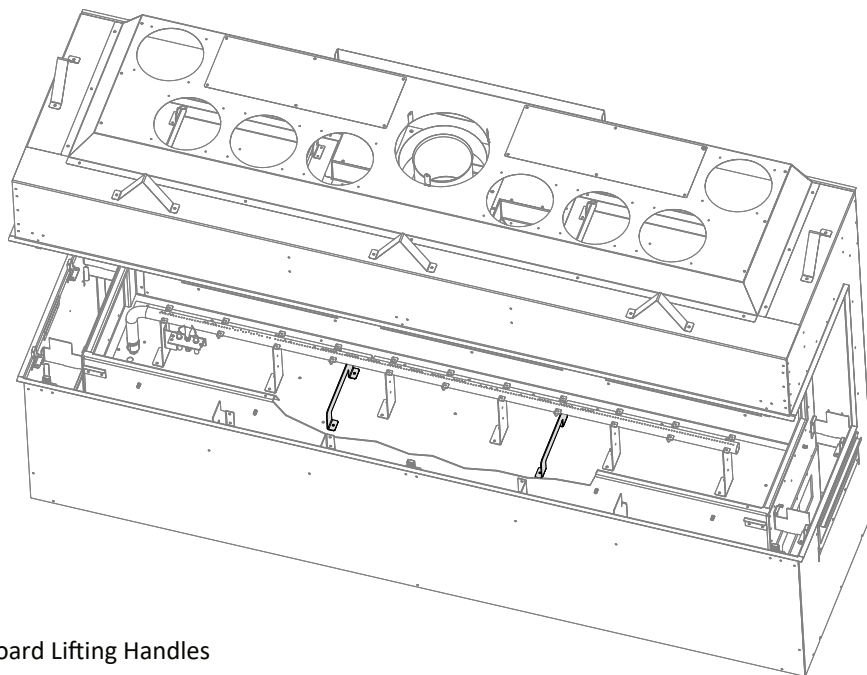
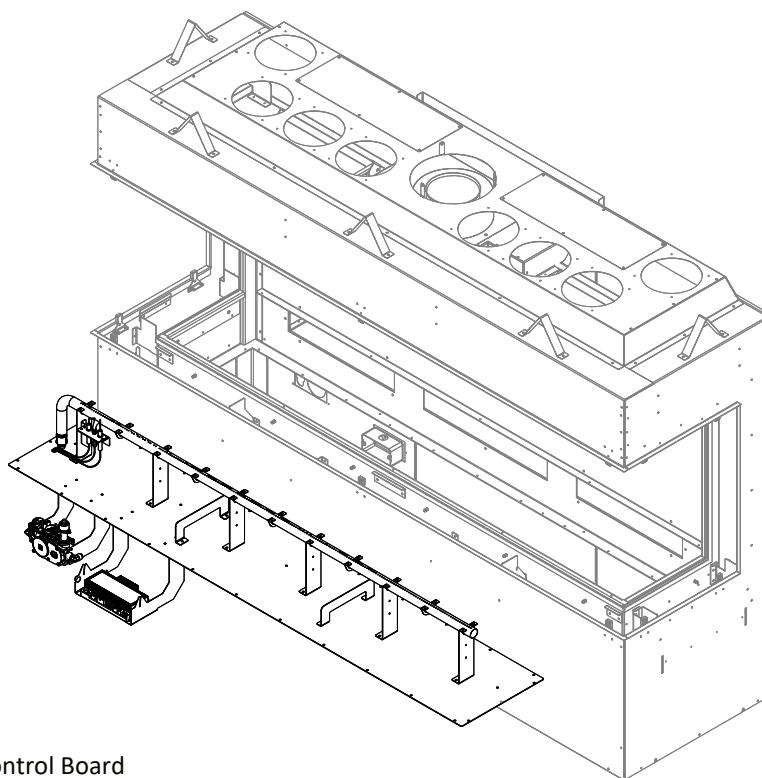

Figure 4.16 - Control Board Lifting Handles
Figure 4.17 - Remove Control Board
5. Remove the (24) sheet metal screws securing the control board to the bottom of the firebox. Figure 4.17.
6. Start by locating the two lifting handles (Figure 4.16) near the center of the control board. When pulling the control board up and out you will have to tilt the control board towards you so the valve and module pivot into the opening. Lift the control board up to gain access to under the control board. Figure 4.17.